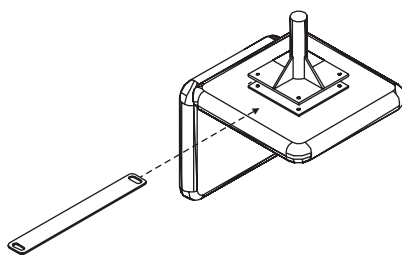

Figure 4-56
2. Loosen the screws that attach the plate to the seat. Allow enough room to slide the anchor plate between the seat and the seat plate. **See Figure 4-56.**